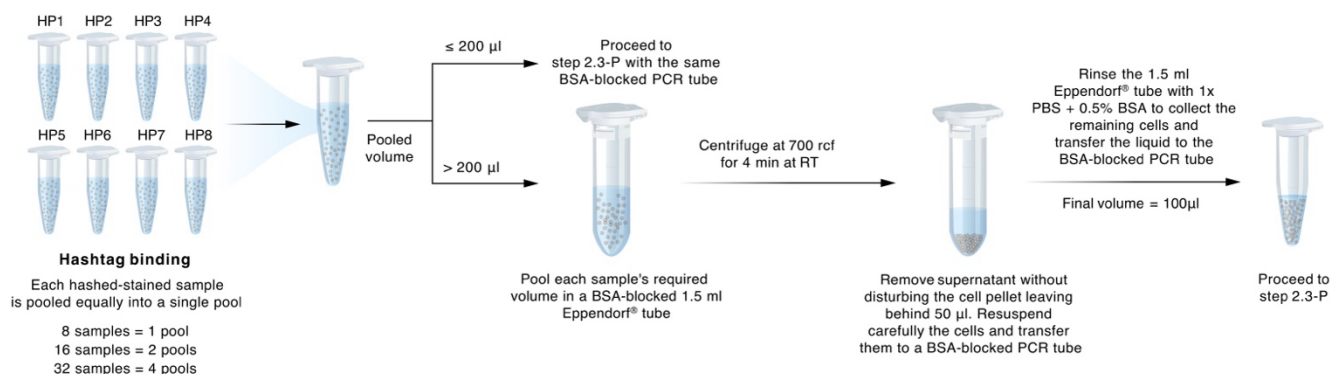

Figure 4. Hashtag-stained sample pooling scheme.
- O.** Combine individually hashtag-stained samples by equal cell number into the appropriate tube as follows (see Figure 4):